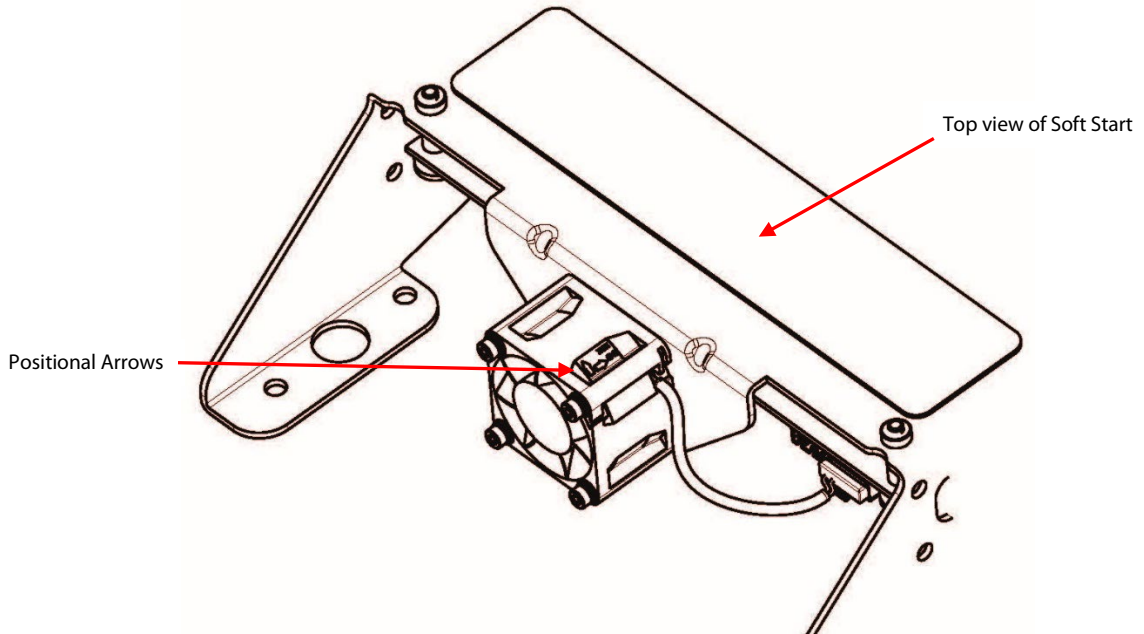

Figure 7. Fan Orientation W/O Adapter Board
- Orient the fan so the arrows are pointing counter clockwise and toward the Soft Start. Refer to Figure 7 (Fan Orientation W/O Adapter Board).